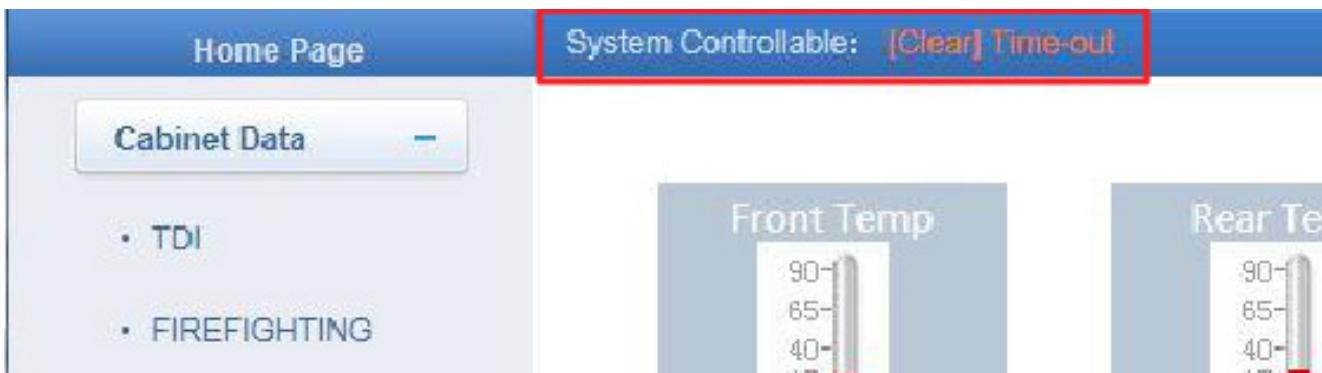

Figure 4-45 Clear Time-out Link
- When there is no operation on the webpage within 15 minutes or if the screen is dormant for 15 minutes without any action, the page will become uncontrollable and will display the Clear Time-out link as shown in Figure 4-45.